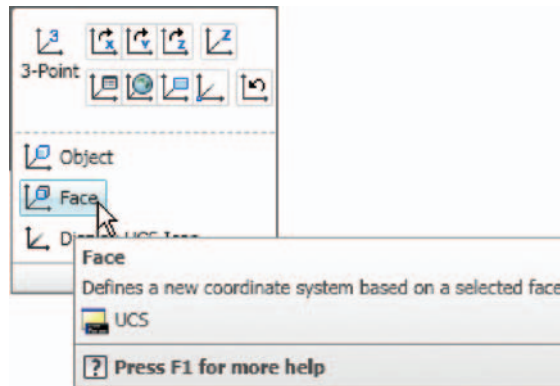
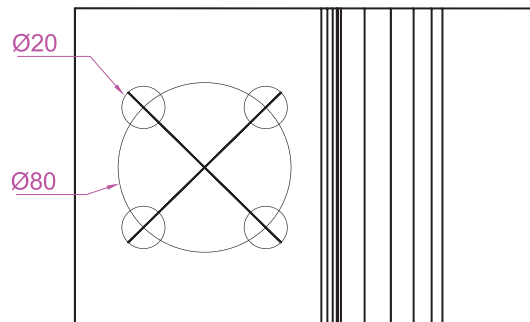

Fig. 17.23 The **Face** icon form the **View/UCS** toolbar
Fig. 17.24 Second example – 2D outlines in 3D space – the circles in the new **UCS FACE**
4. Click the **Face** tool icon in the **View/UCS** toolbar (Fig. 17.23) and place the 3D model in the **UCS** plane shown in Fig. 17.24, selecting the sloping face of the extrusion for the plane and again **Zoom** to 1.
5. With the **Circle** tool draw five circles as shown in Fig. 17.24.